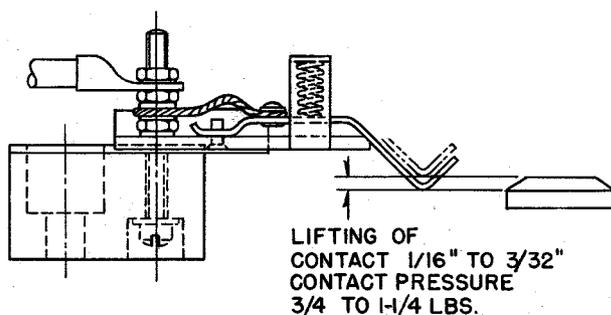

Fig. 5 - Interlock Contact Finger Lift
- e. Check the interlock finger contact pressure (see Maintenance Data) and lift (contact lift is checked only when the movable contact block assembly is not equipped with filler blocks), see Fig. 5. If the lift of the interlock finger does not fall within limits, adjustment should be made by bending the finger. The finger should not be bent more than  $3/32$ " to obtain the proper amount of lift. If further adjustment is necessary, fish paper shims should be inserted behind interlock block.